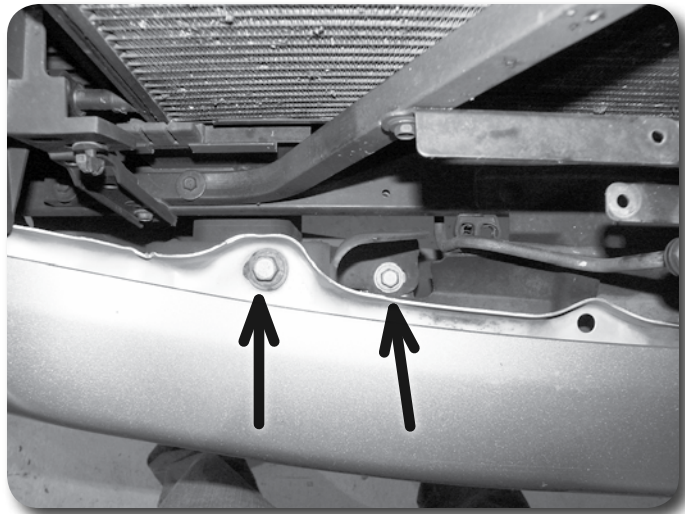

Figure 9
13. Since the grill was removed, the four inside bumper bolts (two on each side) can be accessed from above the bumper **Figure 9**. While supporting the bumper, remove the four bolts and separate the bumper from the vehicle. Save bumper mounting bolts.